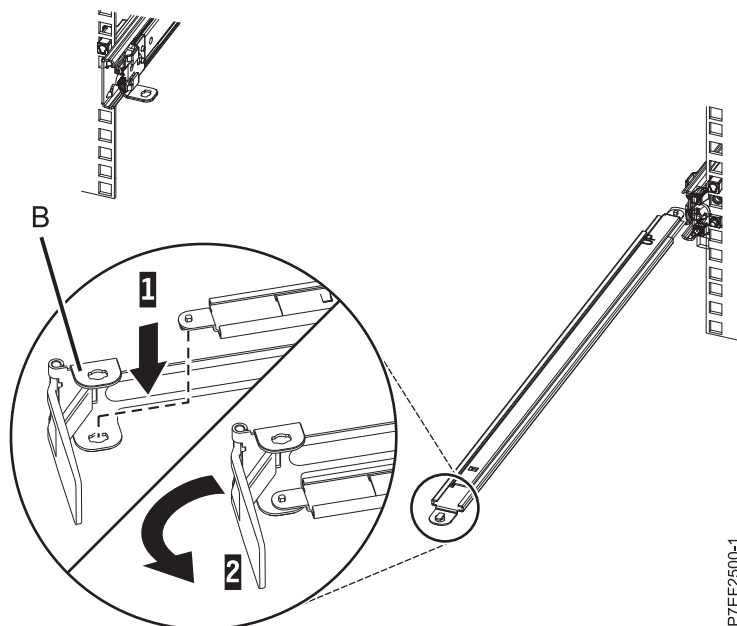

Figure 11. Securing the cable-management stop bracket to the support arm
3. Locate the hole at the bottom inside corner of the L-shaped cable-management stop bracket (B). Position the unattached end of the support arm so that the locking tab on the underside of its tip aligns with the bracket hole. Insert the tab into the hole (1) and turn the bracket (2) to secure it to the support arm. For details, see Figure 11 on page 9.